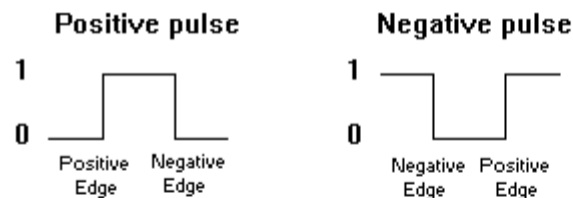

Figure1 Clock pulse transition
The clock pulse goes through two signal transitions: from 0 to 1 and the return from 1 to 0. As shown in figure1, the positive transition is defined as the positive edge and the negative transition as the negative edge.
By assuming previous values $Q=1$ and $\bar{Q}=0$, for $S=0$ and $R=0$ there is no change in the output. The flip-flop in Fig1 has two useful states. When $Q=1$ and $\bar{Q}=0$, it is in the *set state* (or 1-state). When $Q=0$ and $\bar{Q}=1$, it is in the *clear state* (or 0-state).
The outputs Q and \bar{Q} are complements of each other and are referred to as the normal and complement outputs, respectively. The binary state of the flip-flop is taken to be the value of the normal output. When a 1 is applied to both the set(S) and reset (R) inputs of the flip-flop in Fig1, both Q and \bar{Q} outputs go to 0. This condition violates the fact that both outputs are complements of each other. In normal operation this condition must be avoided by making sure that 1's are not applied to both inputs simultaneously.